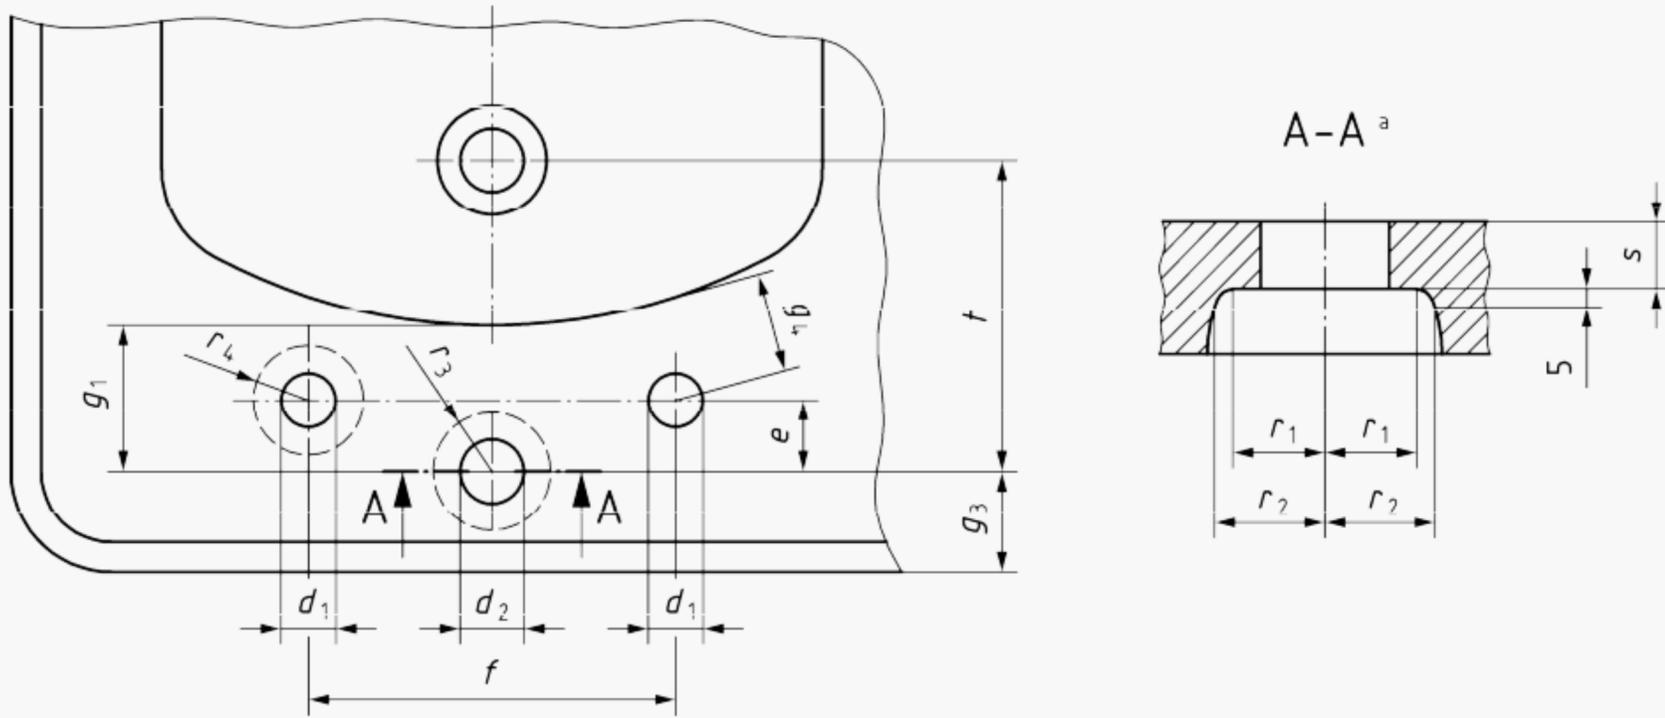

Figure 3 — Connecting dimensions of wash basins with three tap holes
**Table 3 — Connecting dimensions of wash basins with three tap holes (Figure 3)**